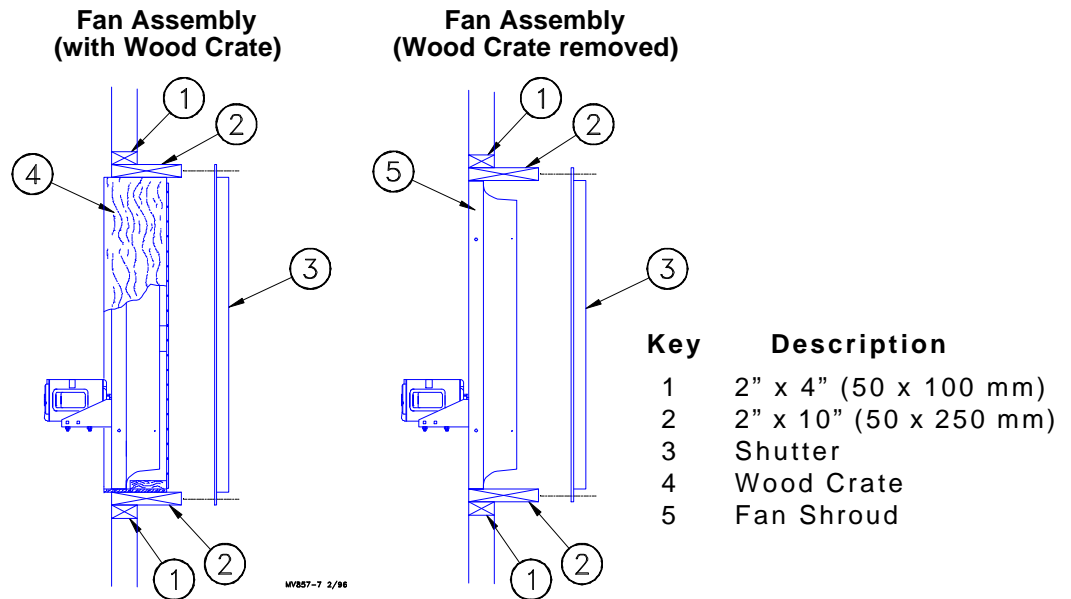

Figure 3. Fan installation (front view).
Set the Fan Assembly in the framed opening. Position the fan so that the edge of the Fan Shroud is even with the inside edge of the opening. See Figure 3. Secure the Fan Assembly in the framed opening, using (3) screws (not supplied) per side. Secure the Shutter to the 2" x 10" framing, as shown in Figure 3.